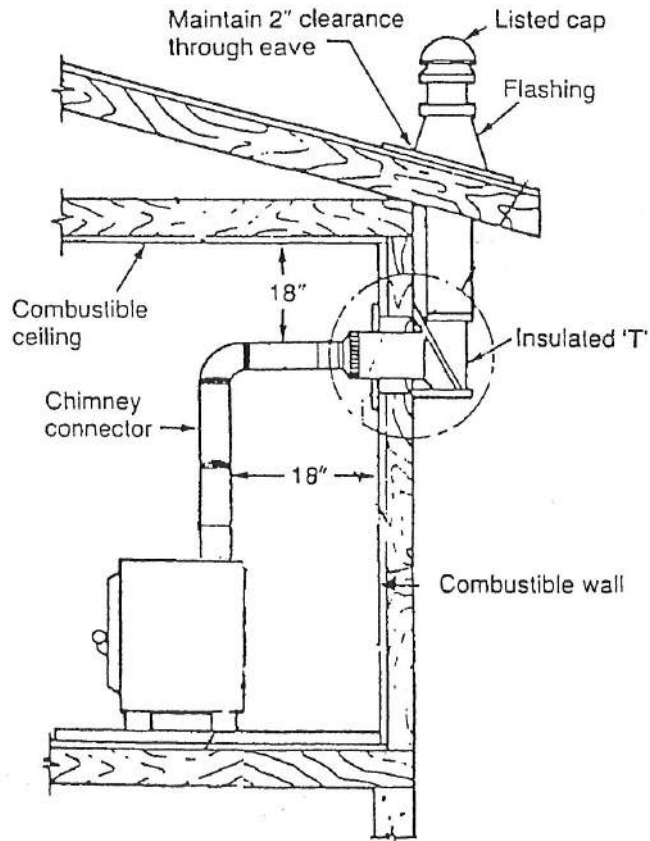

FIGURE 7
1. Install chimney inside residence through roof. (See figure 7).